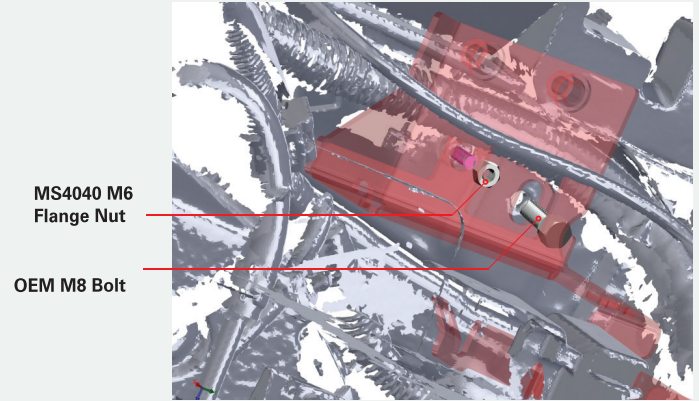

FIGURE 4B
- 9 Screw in the remaining OEM M8 bolt saved from the previous steps into the firewall mounting point. Then install the supplied MS4040 M6 flange nut into the firewall stud as shown in FIG. 4B.